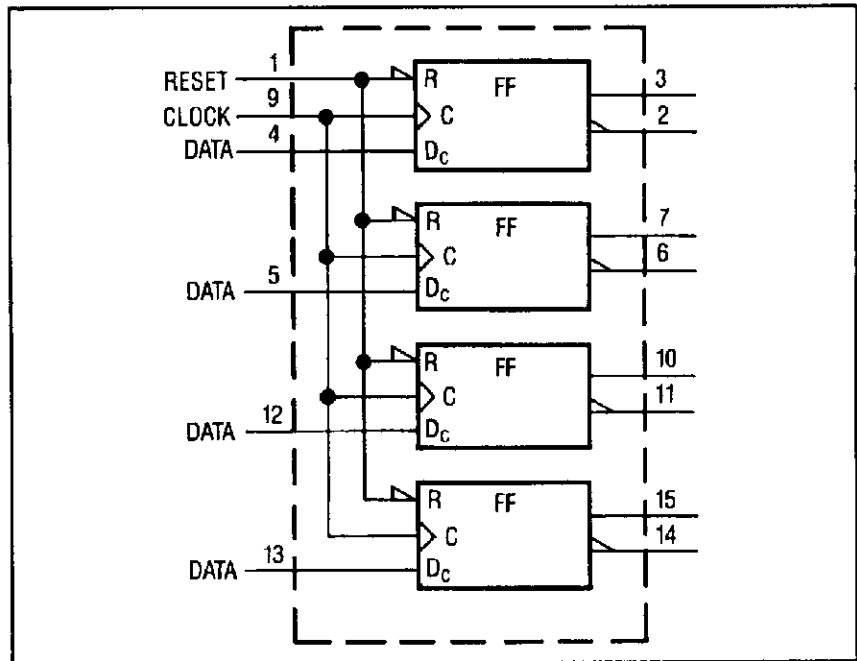

Figure 8-13. Quad D-Type Latch (Individual)
Quad D-Type Latch. The register control block illustrates a quad D-type latch (see figure 8-13). There is a common active-low reset (R), and a common edge-triggered control input (C). Since there is only one dependency relationship, the controlling input is not numbered and the controlled functions (D) are subscripted with a "C".